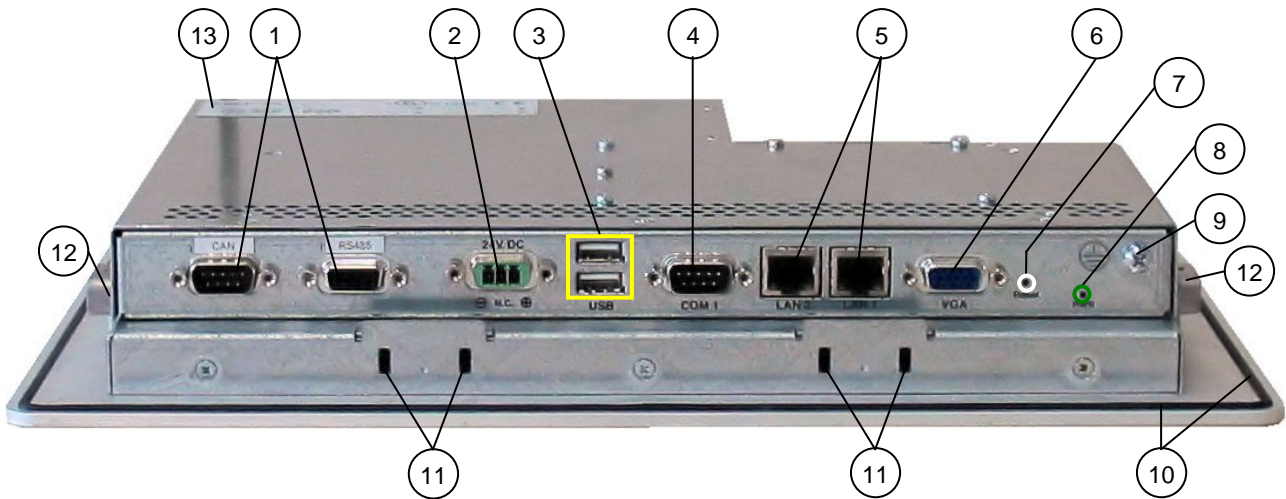
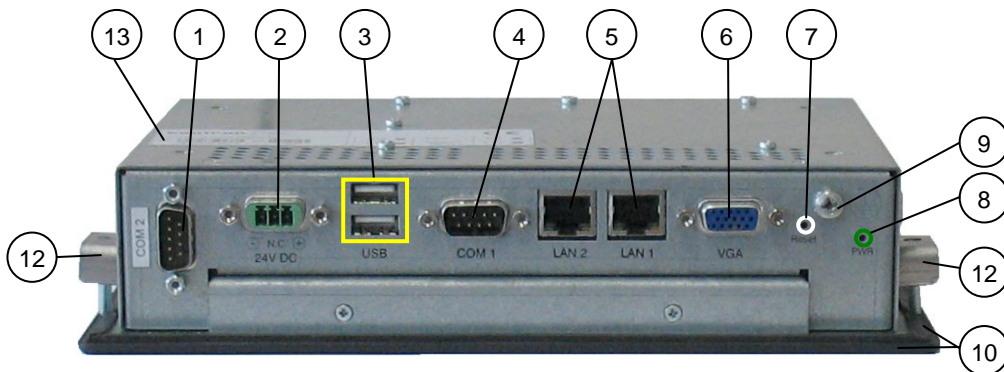
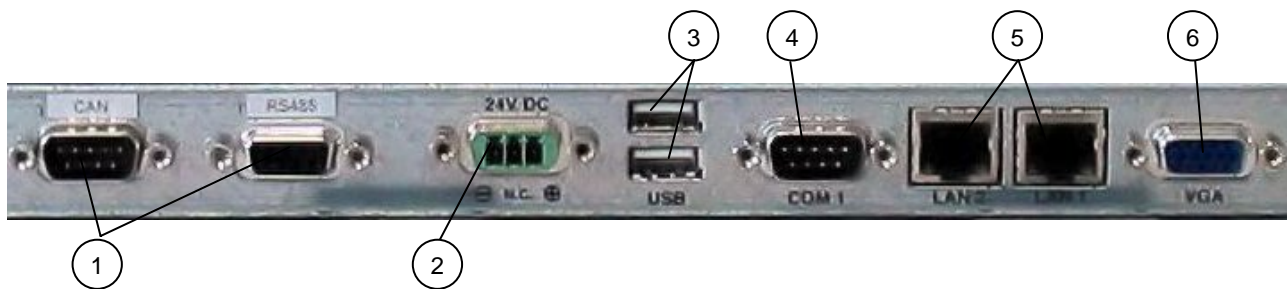
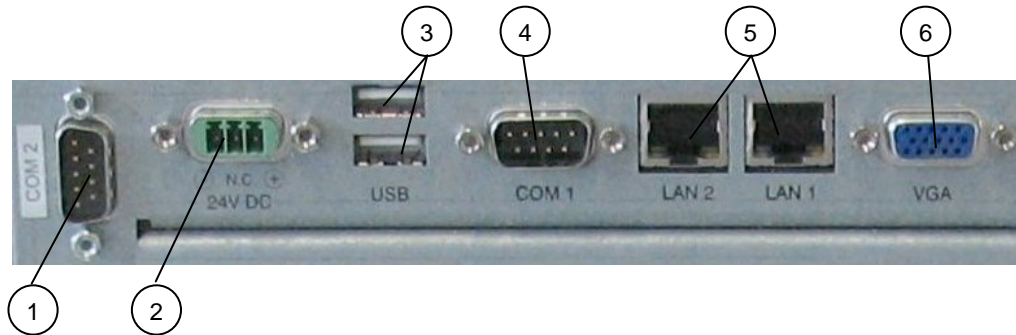

Fig. 15: Bottom view of the M@CII 104/121/150 (shown as M@CII 104)
Fig. 16: Bottom view of the M@CII 70
Fig. 19: Detail with interfaces for M@CII 104/121/150 systems
Fig. 20: Detail with interfaces for M@CII 70 systems
Legend for Fig. 15 and Fig. 16:
The DC Power connector (refer to Fig. 15 and Fig. 16 pos. 2 and Fig. 17) provides the power connection of the M@CII 70/104/121/150 system to the main power source via the DC power cable (included) or the AC/DC adapter (not included).
To restart the M@CII 70/104/121/150 system, e.g. after a system hang-up, press the “RESET” button (refer to Fig. 15 and Fig. 16, pos. 7, and Fig. 18). The system restarts automatically; you don't have to switch the computer off and on.
The chassis of the M@CII 70/104/121/150 system must be grounded by establishing a **large-area contact** between the grounding screw M4x19 (DIN7985) with 2x lock washer M4 (DIN6797) (Fig. 15 and Fig. 16, pos. 9) and an appropriate grounding connection point. The minimum cross section of the grounding conductor is 1mm² (AWG 18).
Legend for Fig. 19 and Fig. 20:
These interface connectors (pos. 5, Fig. 15, Fig. 16, Fig. 19 and Fig. 20) are provided as RJ45 sockets with integrated LEDs.
The system is equipped at the bottom side (rear) with two USB 2.0 interface connectors (pos. 3, Fig. 15, Fig. 16, Fig. 19 and Fig. 20). These connectors provide connections for USB-compatible devices.
An external (analog) monitor can be plugged into this interface (pos. 6, Fig. 15, Fig. 16, Fig. 19 and Fig. 20) which is provided as a 15-pin D-SUB socket.
This RS232 connection (marked as COM1) (pos. 4, Fig. 15, Fig. 16, Fig. 19 and Fig. 20) are available as 9-pin D-SUB connectors (female) and provides connection (RS232) for serial devices.
The optional interfaces (Fig. 19, pos. 1 shown as CAN-BUS and RS422/485 interfaces and Fig. 20, pos 1, shown as a serial RS232 interface) must be customized ordered. Depending on your requirements, you can choose the type of the optional interface/s: RS232, RS422/485, RS422/485 isolated 1.5kV and CAN-BUS.
The two optional interface locations (Fig. 19, pos. 1) can be fitted with:
The optional interface location (Fig. 20, pos 1) can be fitted with:
If one the optional interfaces of your system is an RS422/485 serial interface (pos. 1, Fig. 15, Fig. 16, Fig. 19 and Fig. 20) it is available as 9-pin D-SUB connector (female). The interface can be configured via an on-board DIP switch (SW1) for RS422 or RS485 serial communication.